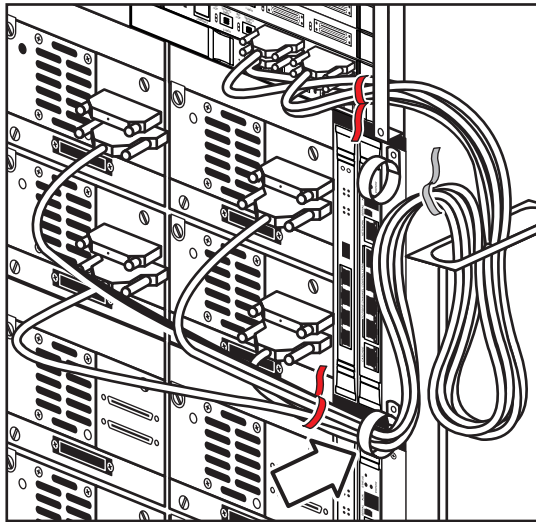

Figure 48: Routing through the cluster cable clamp
6. Route the SCSI cables through the cluster cable clamp on the lower right corner of the cluster frame (see Figure 48).